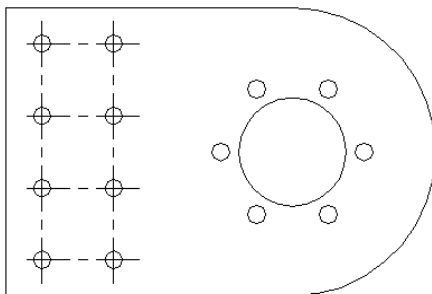

Figure 10-7: The completed mounting bracket
8. Click Preview. You should see a total of four horizontal lines, as shown in Figure 10-7. Click Accept on the small dialog box that appears. (If you don't see the four lines, click Modify and recheck the settings in the Array dialog box.)
13. Click Preview to preview the array. If the circles look like Figure 10-7, click Accept. Otherwise, click Modify and check you settings. After you're done, AutoCAD arrays the holes to fit the centerlines.
19. Click Preview to see the array. It should look like Figure 10-7. If it does, click Accept. If not, click Modify and recheck the settings in the Array dialog box. AutoCAD completes the mounting bracket.
20. Save your drawing. It should look like Figure 10-7.